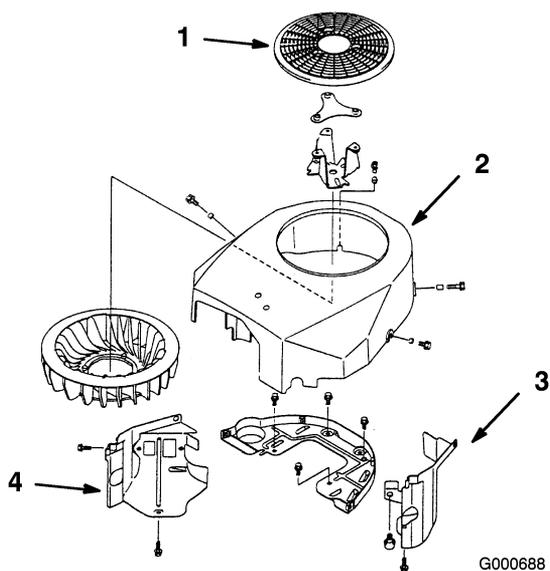

Figure 50
2. Remove the air intake screen, cylinder covers, and fan housing (Figure 50).